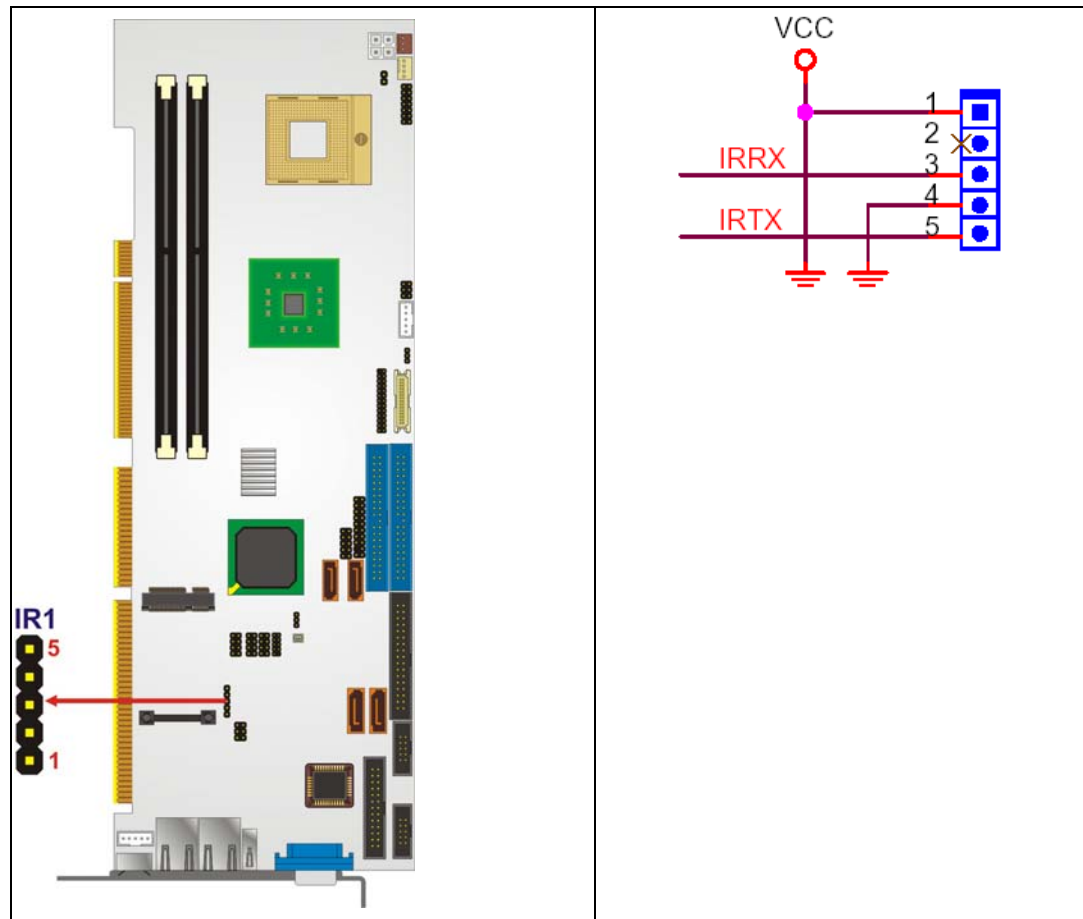

Figure 4-12: IrDA Interface Connector Location
- CN Location:** See **Figure 4-12**